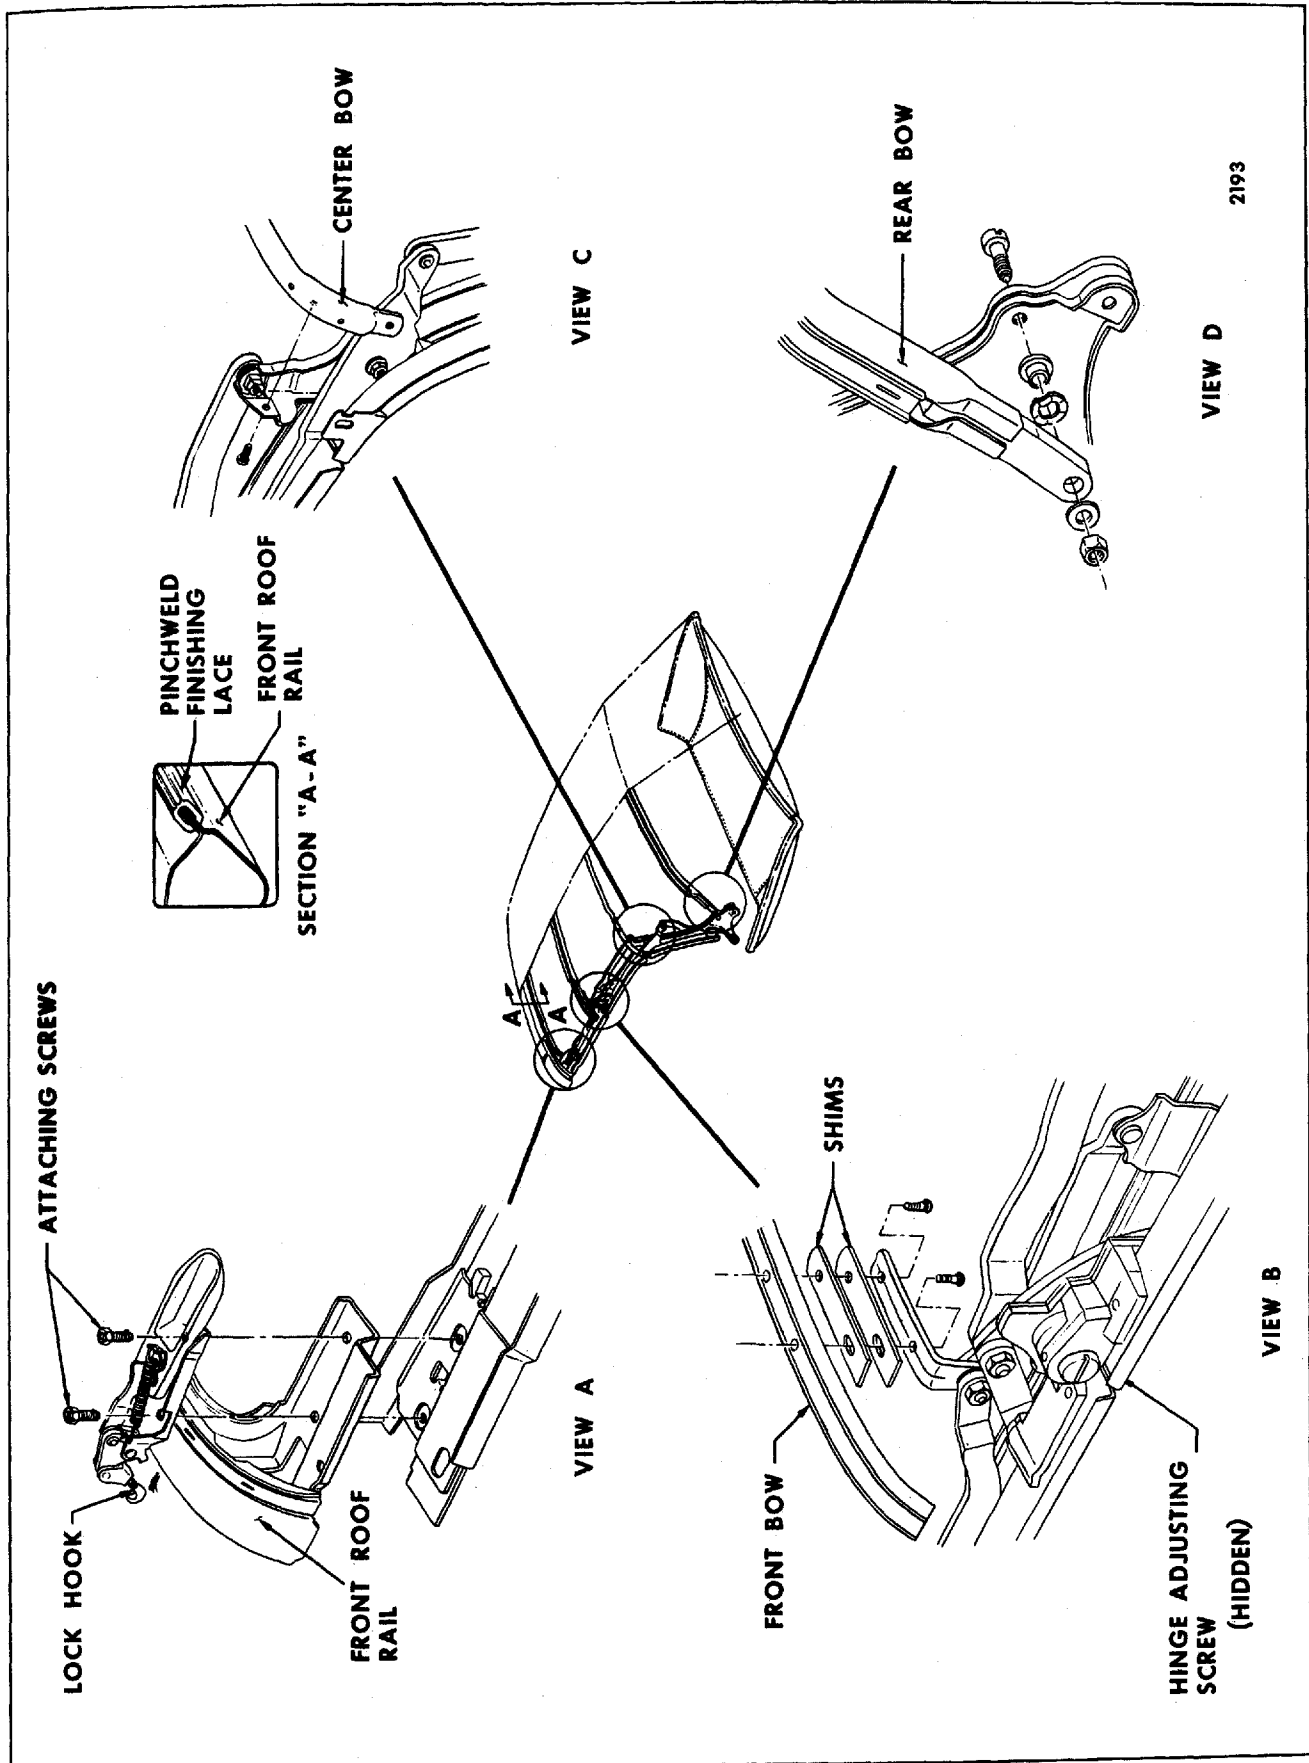

Fig. 6-80—"A" Body Folding Top Adjustments
2. Loosen lock assembly attaching screws on side roof front rail and adjust front roof rail fore or aft as required. Repeat on opposite side if necessary. (See View "A", Fig. 6-80.)
2. With top in a half-open position, remove lock attaching screws; then remove lock assembly from front roof rail. (See View "A", Fig. 6-80).
3. Front roof rail misaligned.	Adjust front roof rail. (View "A" in Fig. 6-80).
2. Center side roof rail hinge adjusting screw improperly adjusted.	Adjust screw counterclockwise. (See View "B" in Fig. 6-80).
2. Center side roof rail hinge adjusting screw improperly adjusted.	Adjust screw clockwise. (See View "B" in Fig. 6-80).